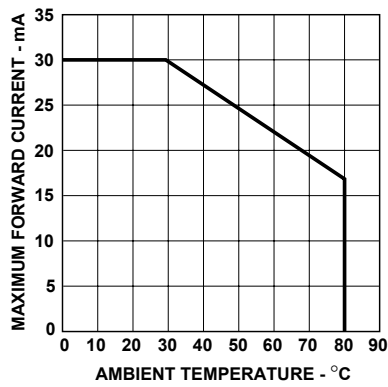

Figure 5. Maximum forward current vs. temperature
1. Derate linearly as shown in Figure 5.